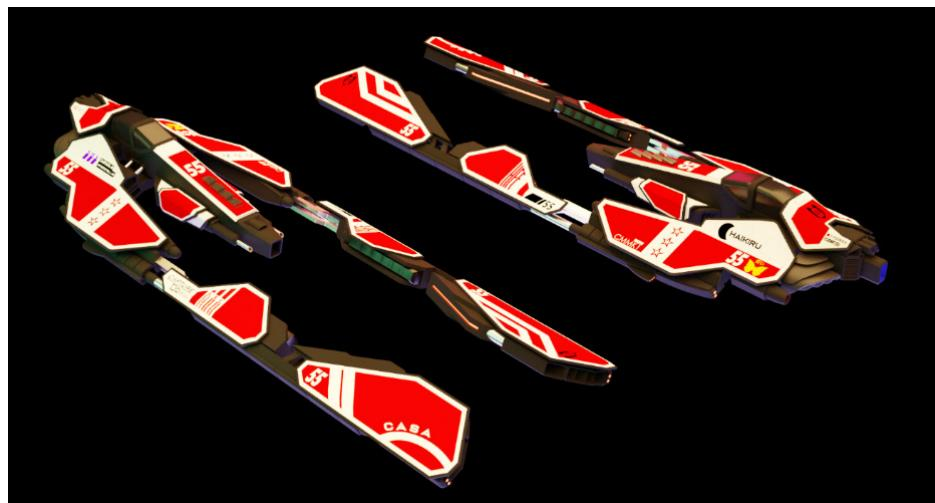

Figure 6.63 – Finished sci-fi race ship
6. Use the techniques covered in this chapter to add as much detail to the model as you can. *Figure 6.63* shows the final result: